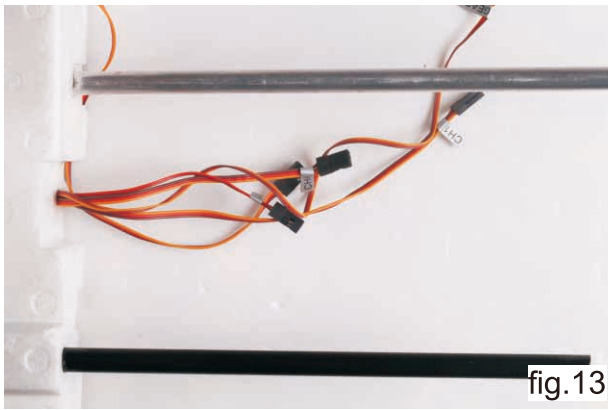

fig.13
- 12) From the top view the two connecting rods should be parallel. Ensure that Aluminum rod is rotated such that the pre-bent angle is consistent with the dihedral of the wing (fig. 13).